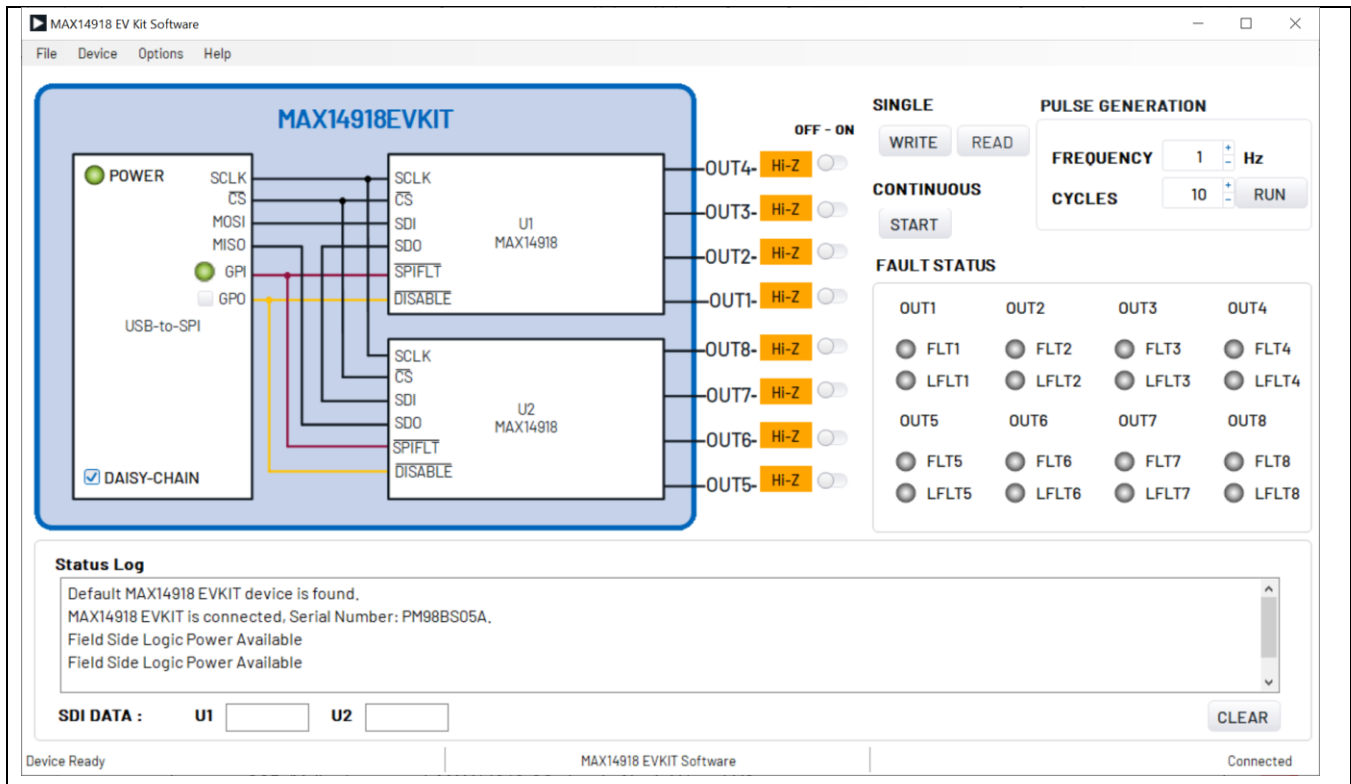

Figure 2. MAX14918 EV Kit Software Startup Window
14. Once the hardware is ready to use, launch the EV kit software by opening its icon in the **Start | Programs** menu. The EV kit software appears as shown in Figure 2.
16. Observe that radio button **POWER** in the EV kit software **USB-to-SPI** box is green, which indicates that the field-side power is normal, and the software can communicate with the MAX14918 SPI. By default, the software is configured in the SPI daisy-chain mode to communicate with both U1 and U2 (see Figure 2).